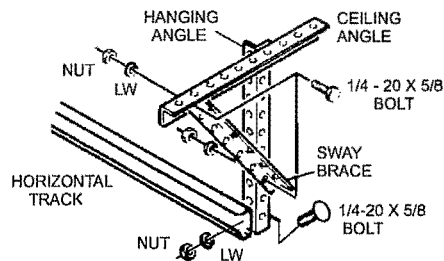

FIGURE 12
- Cut sway braces from perforated angle (not supplied) and install using hex head bolts (not supplied). (See Figure 12)